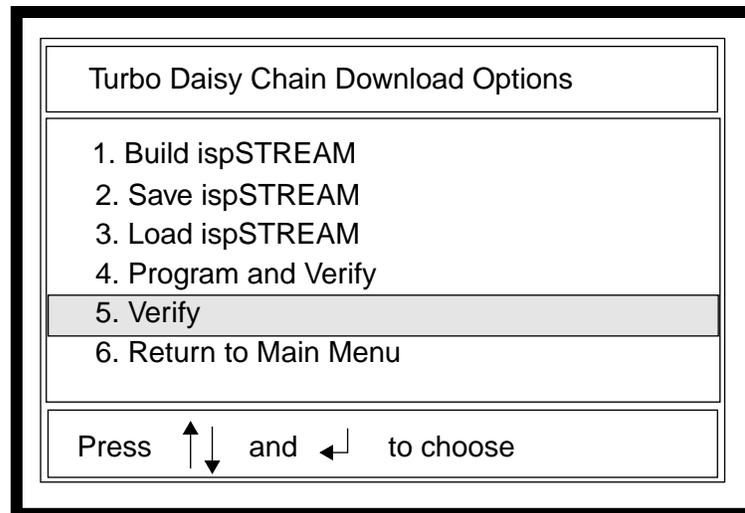

Figure 3-66. Turbo Download Menu
2. Type **5** or **V** from the menu to perform a verification (Figure 3-66). This step does not **program** (download) the devices, even though the PV operation was used in the configuration file on which the ispSTREAM is built.